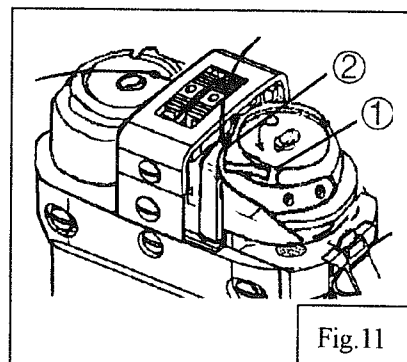
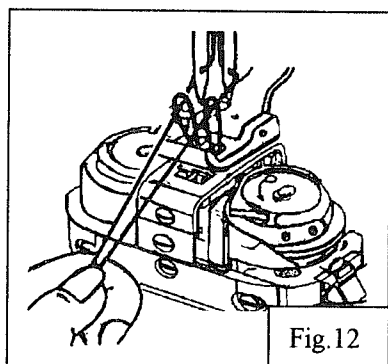

Fig.11
Fig.12
7. Threading of bobbin thread (Fig.11, Fig.12):
1) Flap down the latch lever, from the slit 1 of the hook, pass the thread through underneath of the hook body 2, pull the thread outside (Fig.11);
2) While holding the needle thread by left hand, rotate the hand wheel one turn by right hand. By pulling up the needle thread, the bobbin thread will be lifted. Close the slide plate (Fig.12)